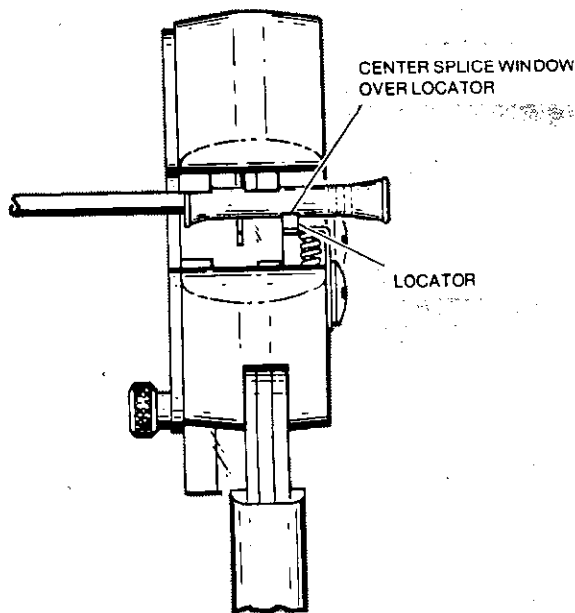

Figure 4
- (e) Place splice in crimping dies with splice window over locator as shown in Figure 4.